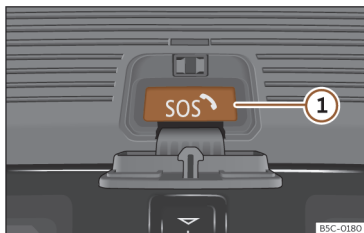

Fig. 48 Emergency call button.
2. Press and hold the emergency call button for a few seconds >>> Fig. 48 .
>>> Fig. 48 in the event of an emergency.
The automatic emergency call cannot be interrupted by pressing the emergency call button >>> Fig. 48.
2. Press and hold the emergency call button for a few seconds >>> **Fig. 48 ①.**
>>> **Fig. 48 in the event of an emergency.**